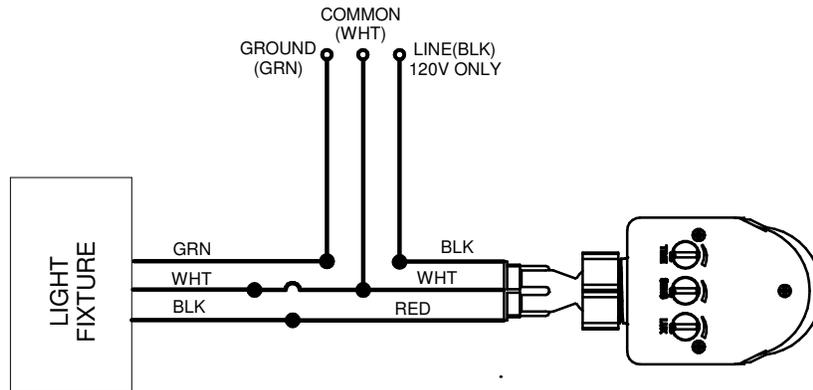

FIGURE 2
3. Make all the necessary wiring connections according to the wiring diagram (FIGURE 2).